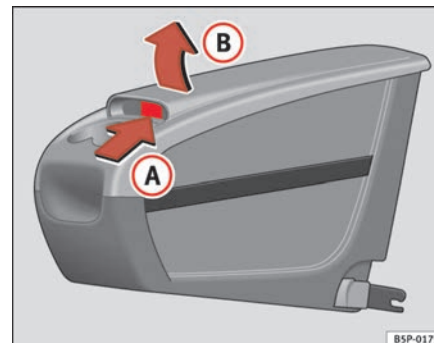

Fig. 113 Mobile stowage compartment Opening
- Lift the cover **(B)**, in area **(A)** ⇒ page 141, fig. 113.